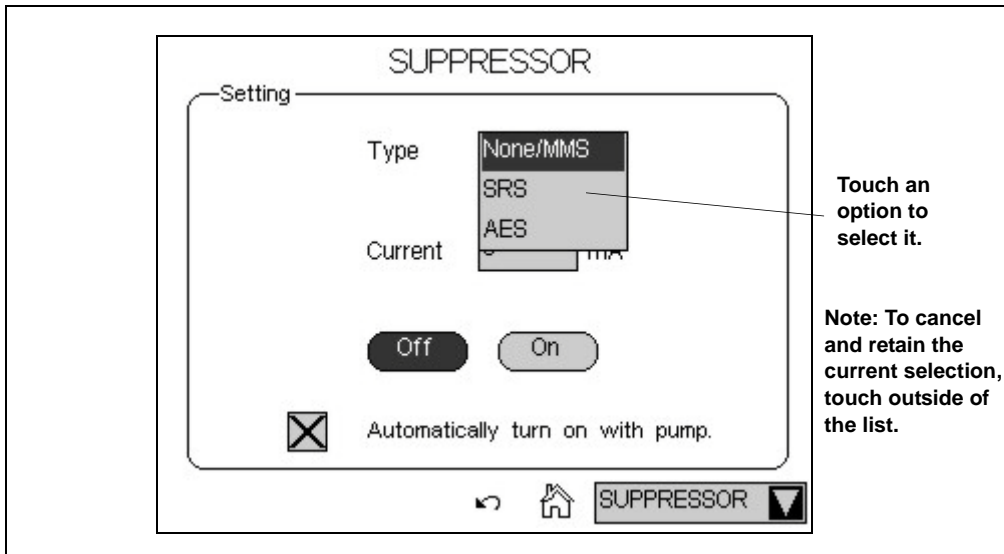

Figure B-5. Suppressor Page: Selecting an Option
- Touching  opens a list of options (see Figure B-5).